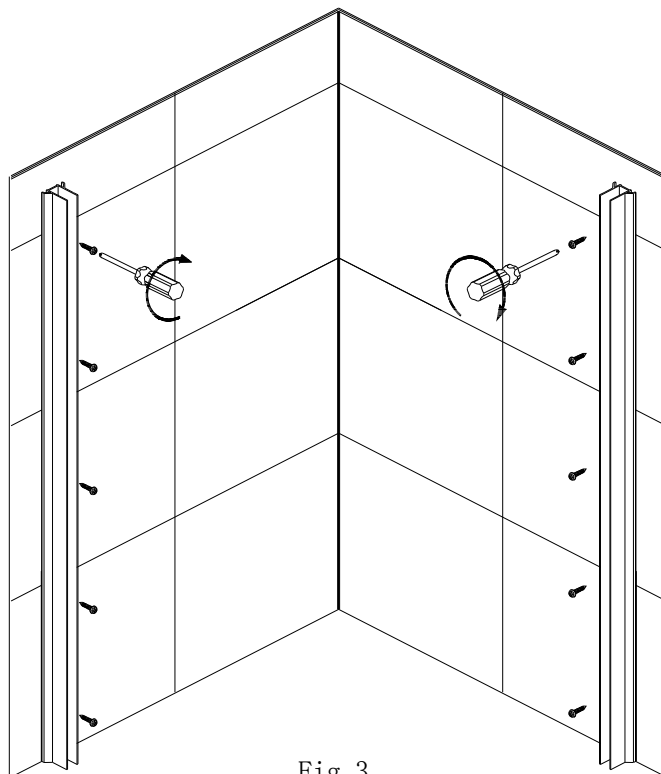

Fig. 3
- 3). Fix the wall connecting profiles with M4X30 screws, As FIG. 3